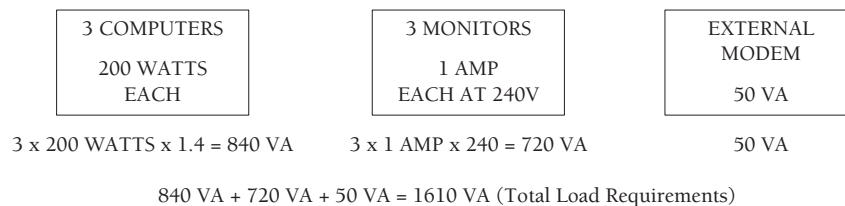

Figure 2. Volt-Amperes Calculation Example
- 3** Add all of the resultant VA ratings together to obtain the total load requirements of the equipment to be protected (see Figure 2).